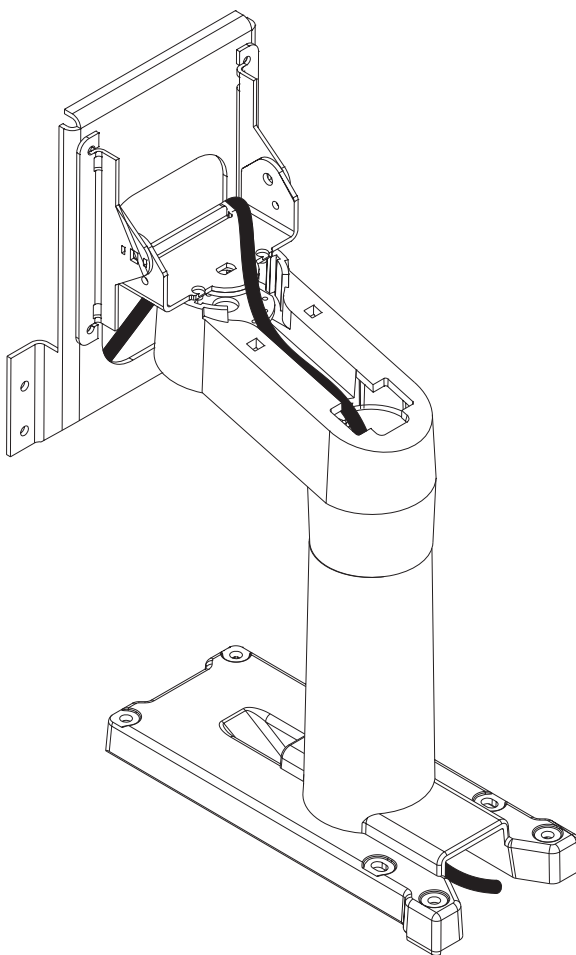

Figure 33. Routing the power cable
- a. Route and attach the power and video cables to the 4820 display (as shown in Figure 33).